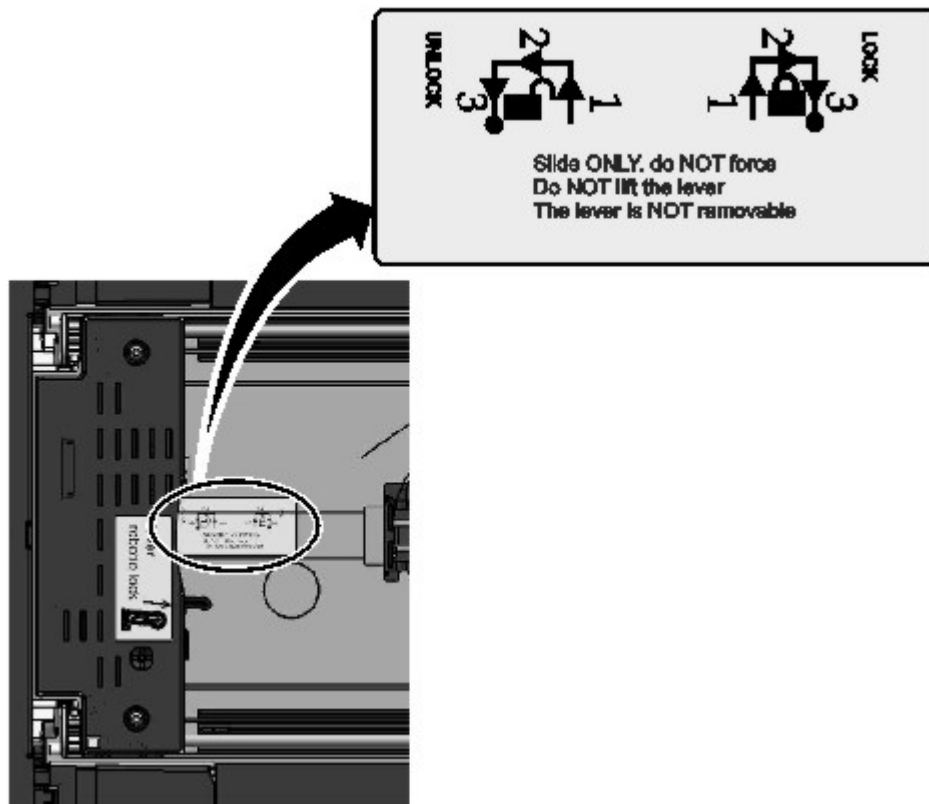

Figure 72. Unlocking the robot
10. Unlock the lever and set aside the accessor. See Figure 72 on page 137.